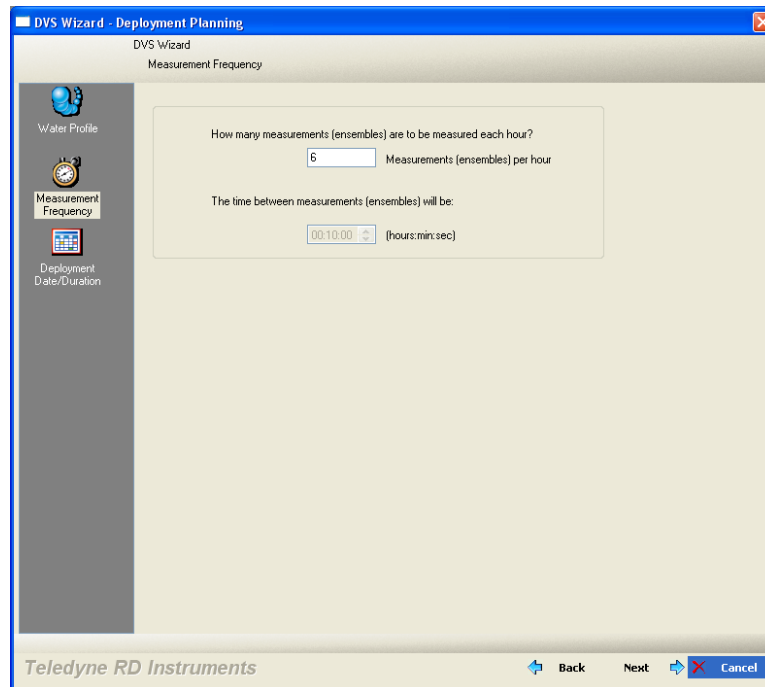

Figure 12. DVS Wizard – Measurement Frequency
9. Select how many ensembles per hour you want to record (Figure 12). The *DVS* software will automatically set the time between ensembles. Click **Next**.